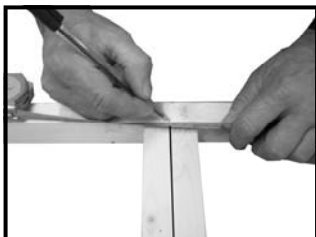

Fig A2
7. Measure and mark the centre of the frame (684mm from the outside fig A2) and position the **WM** piece (this is two pieces of wood already fixed side by side), Pre drill 2 3mm holes in the **WB** and **WT** parts and fix with 2x50mm screws at each end